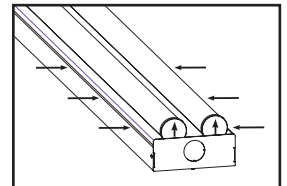

Fig. 1
2. Remove channel cover from main body by squeezing beneath locking tabs and lifting cover. Do this for all locking tab locations (Fig. 1). Avoid pulling on the ends of channel cover to prevent bending.